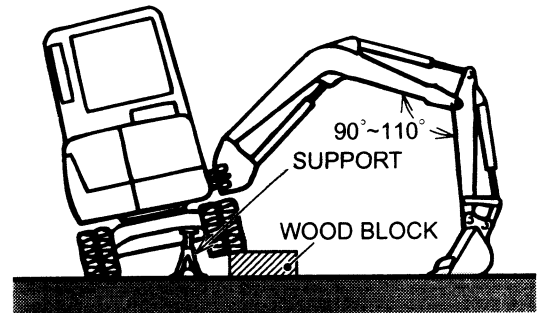

Fig. 2-1 Crawler removing position
- (1) Lift the one side of machine with attachment, as shown in Fig. 2-1, and place support under lower frame to support machine.
- (2) Loosen grease nipple for crawler adjuster, discharging grease in cylinder, and release tension of crawler.